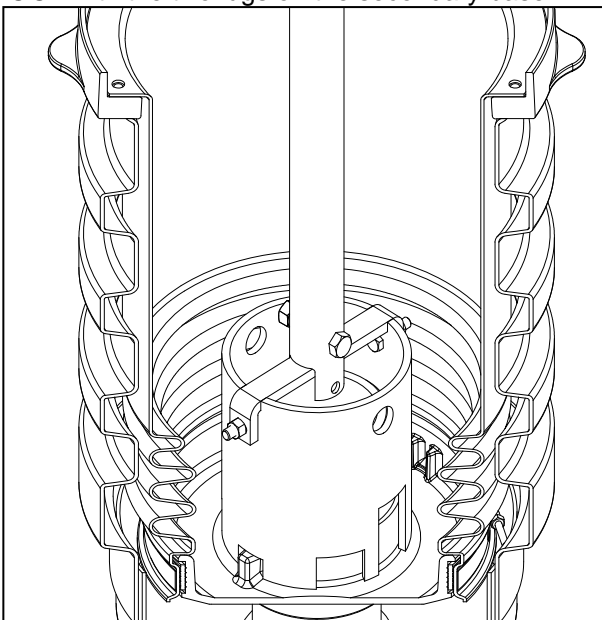

Figure 4
**Secondary Bucket Install/Removal:** (See Figure 4)